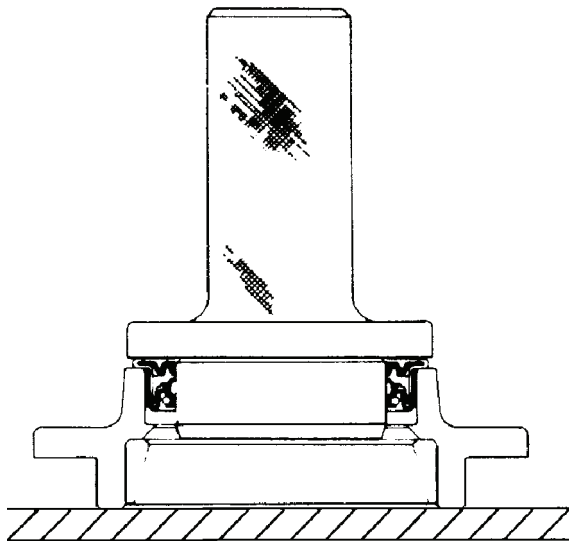

Figure 84.
- (c) Use a press and a driver or a flat metal plate to install the oil seal in the bearing cage. Figure 84.